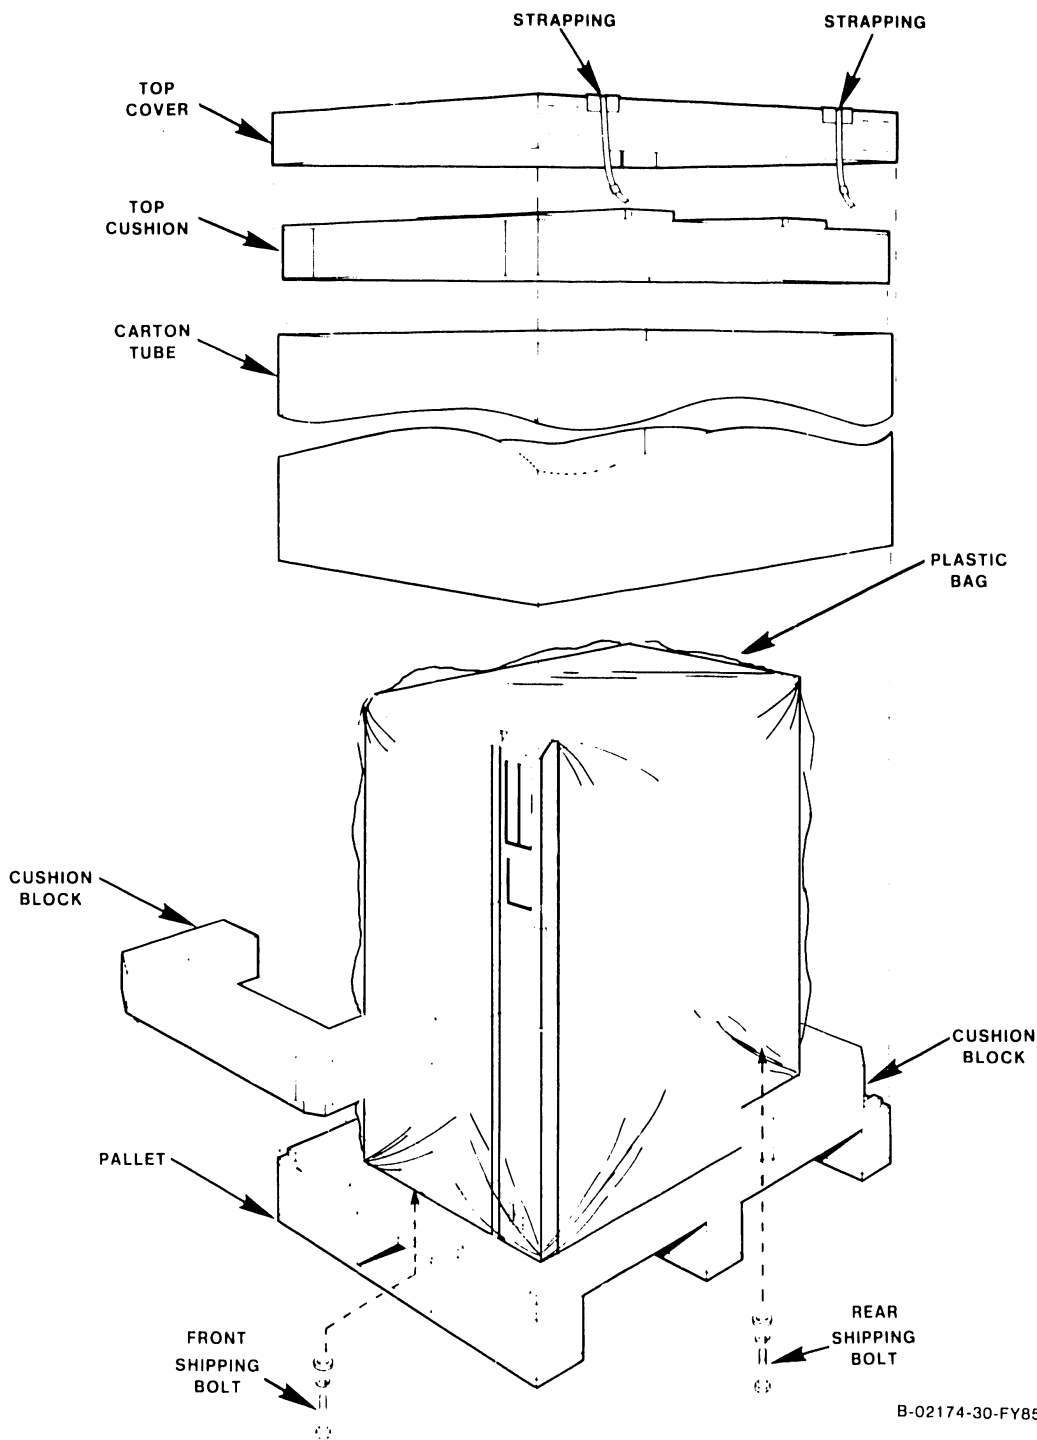

Figure 4-1. Shipping Carton Disassembly and Removal
1. Cut the plastic strapping that secures the top cover and carton tube to the pallet. (See figure 4-1.)